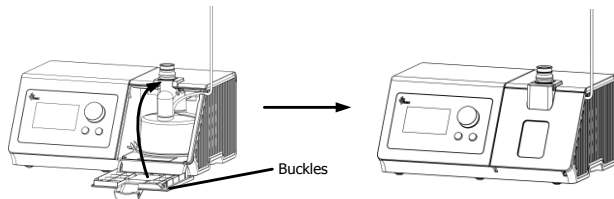

Fig. 11-9
(4) **Close the cover of water chamber:** Close the cover of water chamber along the direction shown in the Fig. 11-9, and buckles on both sides of the cover of water chamber will be stuck in the slot of corresponding position of the device.